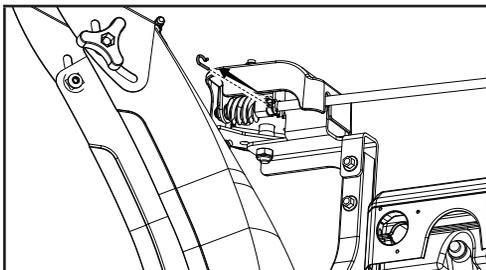

Figure 40
2. Retirez la goupille R (figure 40).